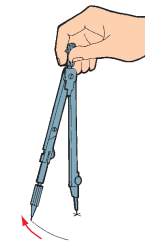

Figure 3-30. When using a compass, draw circles or arcs lightly at first. Make repeated turns to darken the line.
- Hold a compass between the thumb and forefinger and rotate clockwise. Lean the compass slightly in the direction of the rotation as you draw a circle, as shown in **Figure 3-30**.